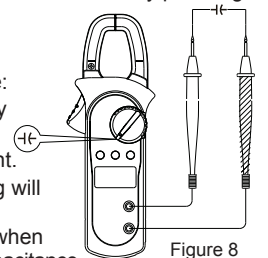

Figure 8
6. Capacitance measurement (V) (See Figure 8)